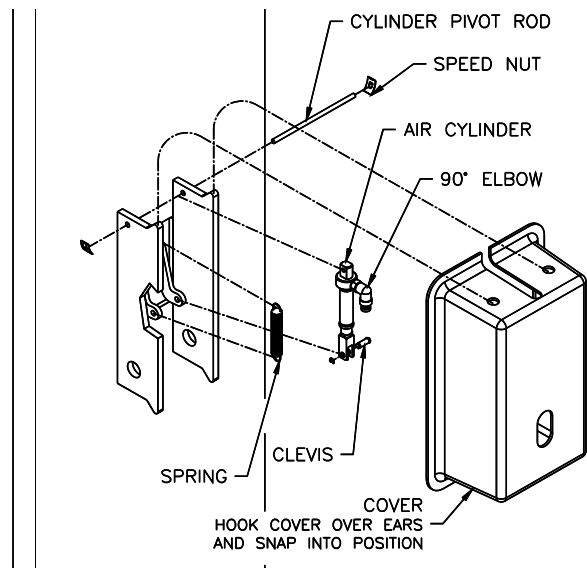

Fig. 2 – Locking Pawl Assembly
- Install the locking pawl, actuator, and spring (**Fig. 2**). Adjust air cylinder clevis to retract lock against inside of back of column when air cylinder is fully extended. Tighten air cylinder clevis jam nut against clevis.